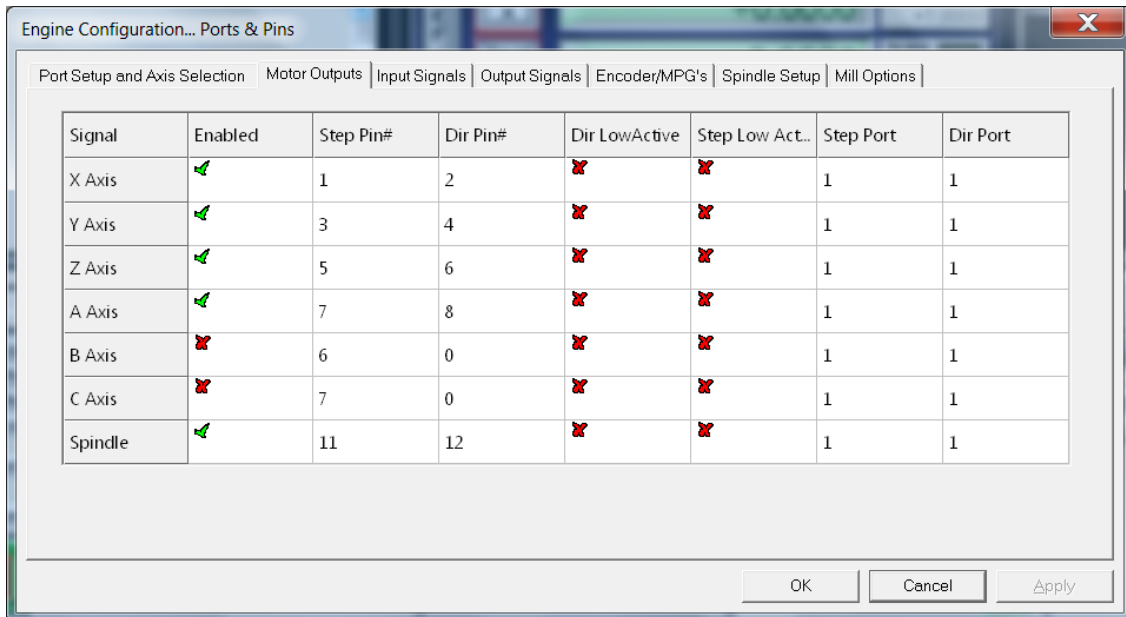
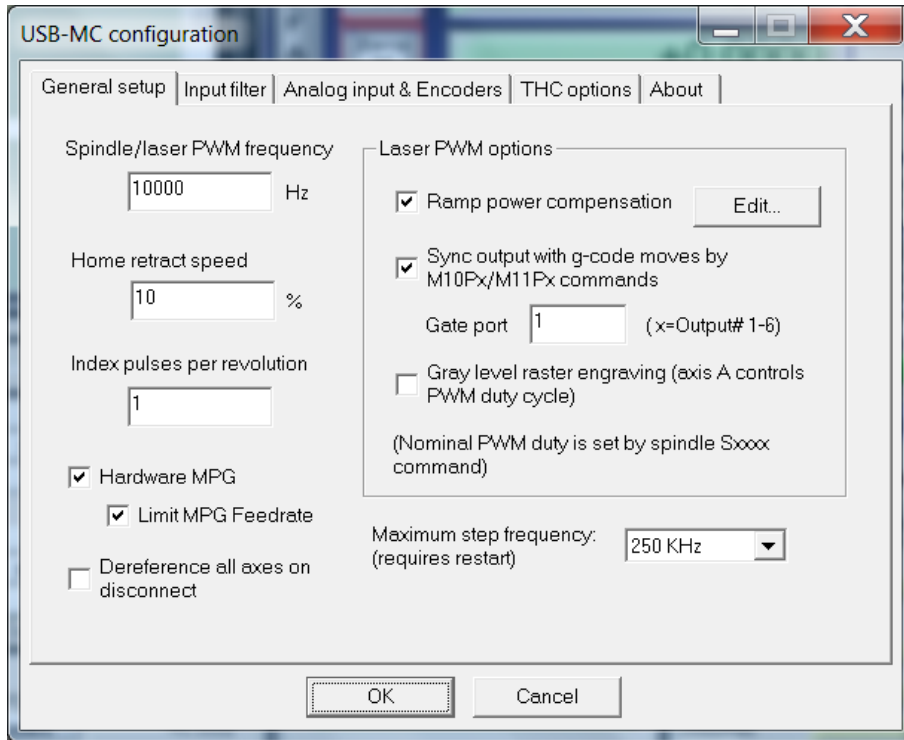

Figure 4.1 Ports and pins configuration
Figure 5.1 General setup
USB-MC-INT motion controller provides one digital input port with 14 pins and one digital output port with 16 pins. These pins can be remapped as desired, that is, can be assigned different functions that are needed for specific application (Figure 4.1).
USB-MC-INT motion controller uses the same configuration dialog as USB-MC motion controller. This dialog can be opened using menu option **Plugin Control/USB-MC Config...** (Figure 5.1).
5.1 General setup tab (Figure 5.1)
The frequency of PWM output signal that is used for spindle rpm control or for laser power control, can be adjusted in range 10 Hz – 200000 Hz (Figure 5.1). Output pin for this purpose is selected via **Spindle axis** line in **Motor Outputs** window (Figure 4.1). Only adjustments for **Step** signal are used (**pin/low act/port**), and **Dir** field is not used for PWM output.
This is the speed of retraction from a home switch given as a percentage of homing speed (Figure 5.1). In first phase of homing (referencing) operation for an axis, movement toward home switch is performed until the switch is activated. Then, movement is performed in the opposite direction (retracting) until the switch deactivates and that position is used as a reference. Home retract speed should be low enough so that good referencing precision is achieved.
Index input is used for detection of spindle rotational speed. It is common to use one pulse per revolution, but more than one can also be used (Figure 5.1).
This option should be turned on if it is desired to dereference all axes in case of an error or a break of connection with the controller (Figure 5.1).
Enables setting the maximum frequency of the generated step signals (Figure 5.1). Lower speed (125 kHz, 4 μ s pulse width) is used in case when drivers/controllers that are being controlled are not fast enough for impulse width of 2 μ s that is required when using full speed (250 kHz).
If this option is turned on (Figure 5.1) USB-MC-INT motion controller will use hardware MPG mode, that is, reading MPG inputs and generation of STEP/DIR output signals is done completely in hardware without
If this option is turned on (Figure 5.1), speed limit given with parameter **MPG Feedrate** is obeyed in hardware MPG mode. This parameter is located on MPG/Jog window (Figure 6.1).
Laser power compensation (Figure 5.1) is used to overcome typical problem during laser engraving, and that is that depth/intensity of engraving depends on movement speed of the laser head. This is particularly visible at the start and at the end of one engraving segment, where laser head slows down and stops, so unwanted black dots appear. To eliminate this phenomenon, laser power can be controlled using PWM so that PWM duty cycle is directly dependent on velocity of the laser head. Thus, for example, if velocity is zero, PWM duty cycle will also be zero. As velocity increases, the duty cycle that controls the laser power is also increased. It is possible to configure an arbitrary relation curve.
This option (Figure 5.1) enables that fast commands M10px and M11px, in addition to their primary function of setting state on output x (Output#1-6), at the same time can turn on/off PWM output. **Gate port** determines which output x controls PWM output in this way. So, for example, if command M11p3 is given and **gate port**=3, PWM output will be turned on.
This option is used for laser engraving of raster images and 8-bit pallet is supported (256 shades of gray) (Figure 5.1). When this option is turned on A axis is used to control laser power i.e. given "movement" of A axis is directly translated to duty cycle of PWM output.